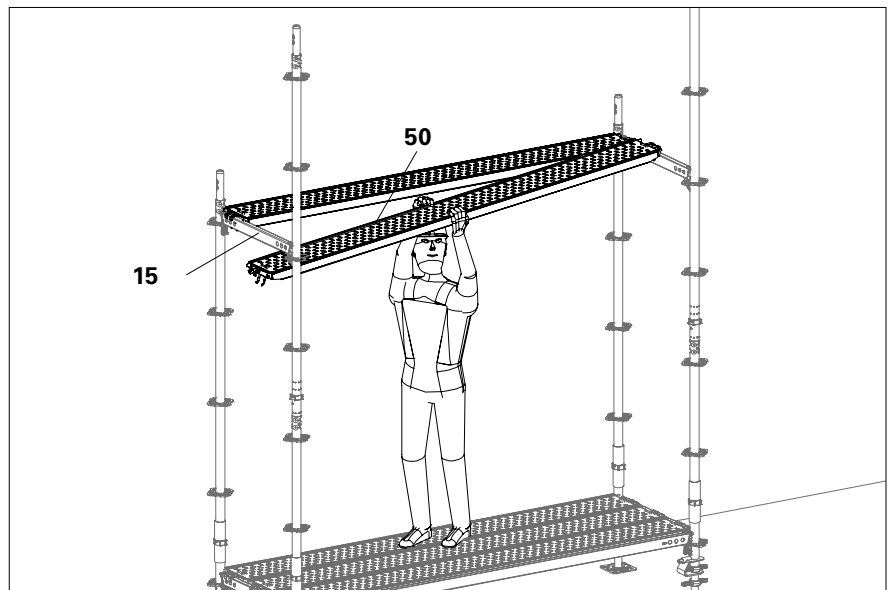

Fig. A7.01
1. Pick up the deck (50) in the middle and lift it over both ledgers (15). (Fig. A7.01)